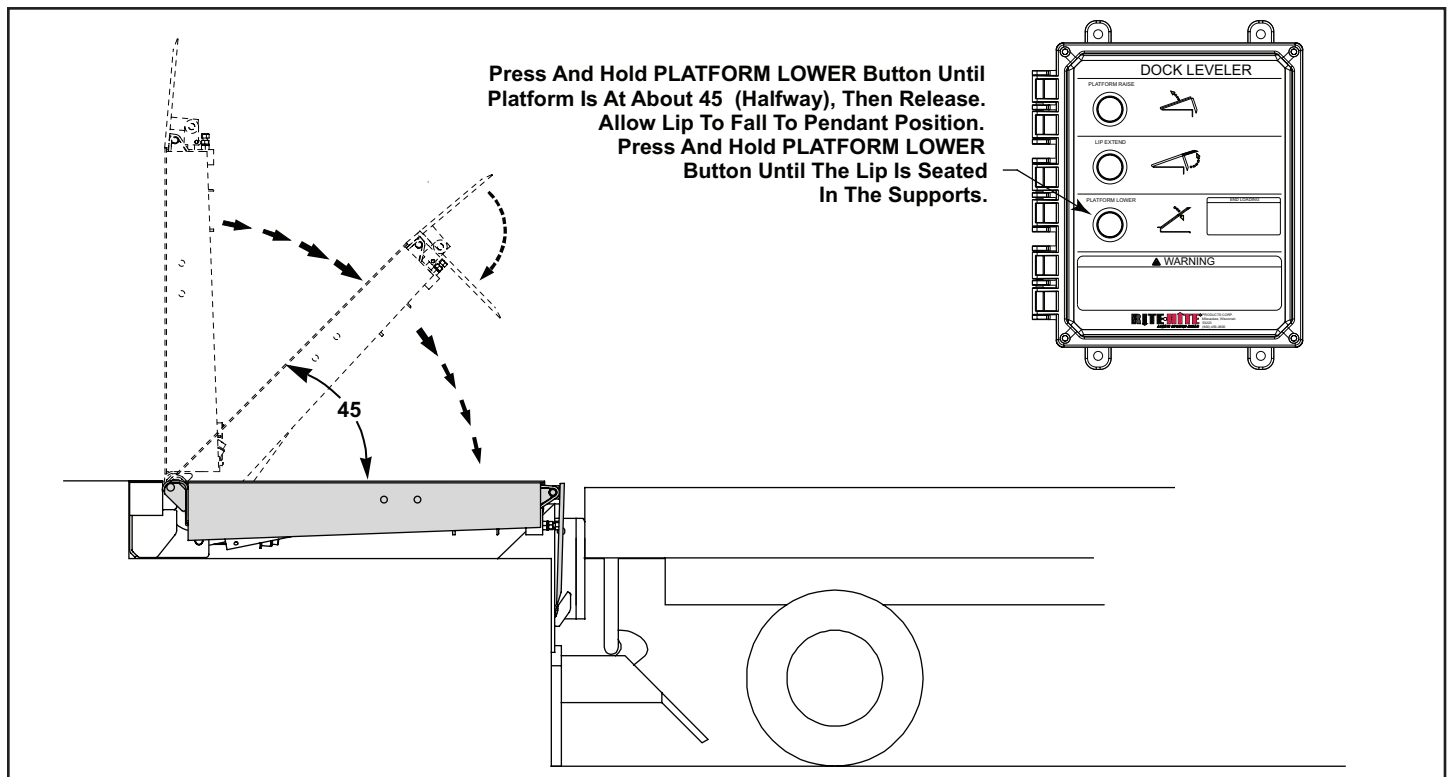

FIGURE 5 - END LOAD
1. Press and hold the PLATFORM LOWER button until the platform is at about 45°. Release the PLATFORM LOWER button. See Figure 5.